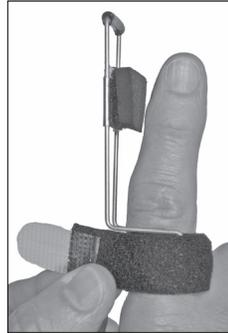

Fig 3
Step 2. Place the splint on the finger as shown in Fig. 3. Wrap the strap around the finger and secure the hook tab.